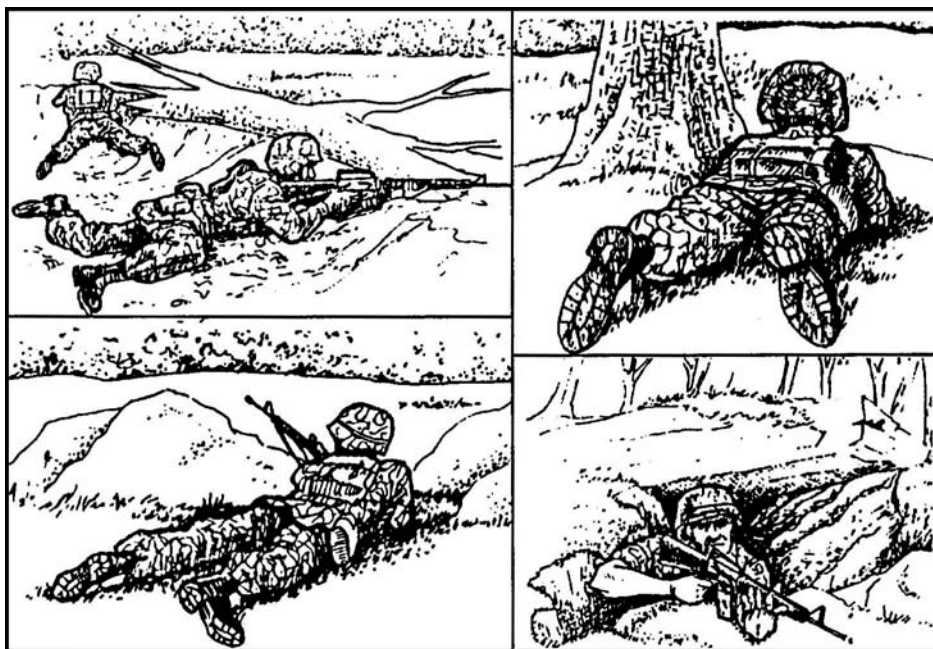

Figure 1. Temporary fighting positions.
1. Choose a position that takes advantage of available cover and concealment (Figure 1).